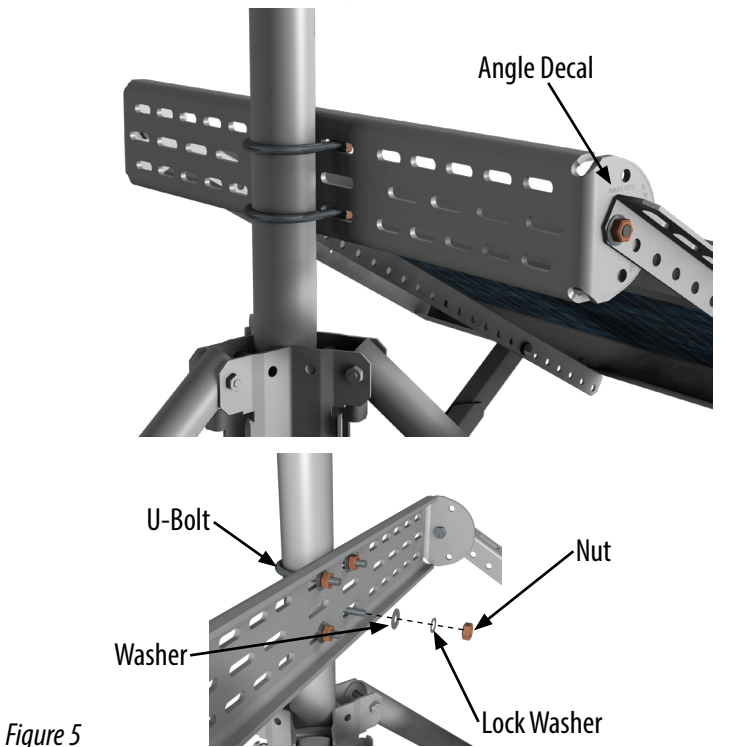

Figure 5
6. (If mounting the solar panel on a tower, go to step 8) With the help of a second person, hold the upper bracket against the tripod mast (Figure 5). Use U-bolts, washers, lock washers, and nuts from the hardware bag labeled 'Tripod' to mount the bracket to the mast. Fully tighten the nuts on both U-bolts.